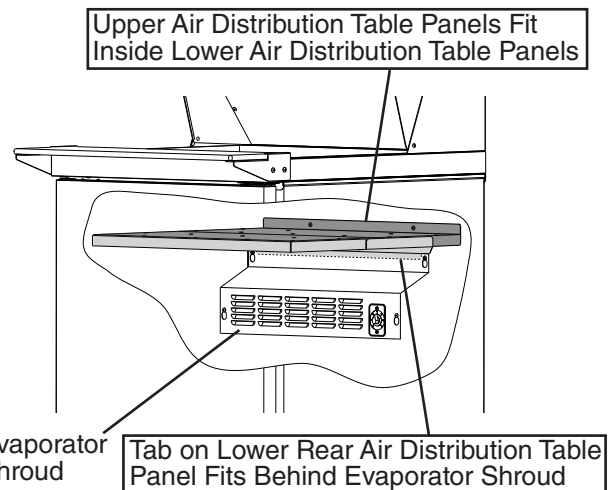

Fig. 22
- 8) Replace the air distribution table panels in their correct positions. See Fig. 22.